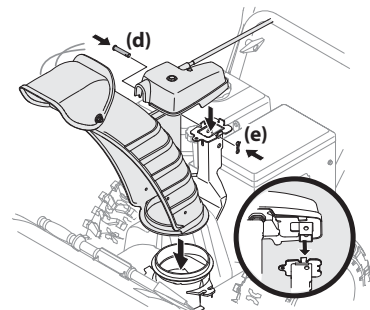

Figure 2-42
3. Place chute onto chute base and ensure chute control rod is positioned under handle panel. Secure chute control head to chute support bracket with clevis pin (d) and bow-tie cotter pin (e) removed in Step 1. See Figure 2-42.
5. Insert other end of chute control rod into coupler below handle panel. Make sure to line up flat end of rod and flat end of coupler. You may need to rotate rod around until these two surfaces line up. See Figure 2-42 inset.